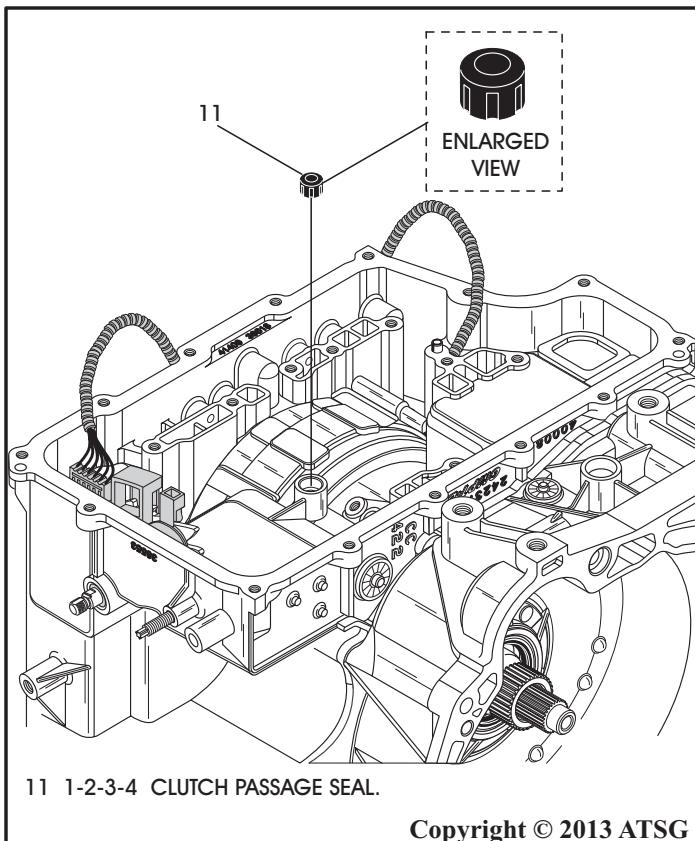

Figure 215
53. Install a new 1-2-3-4 clutch passage seal in the direction shown in Figure 215.